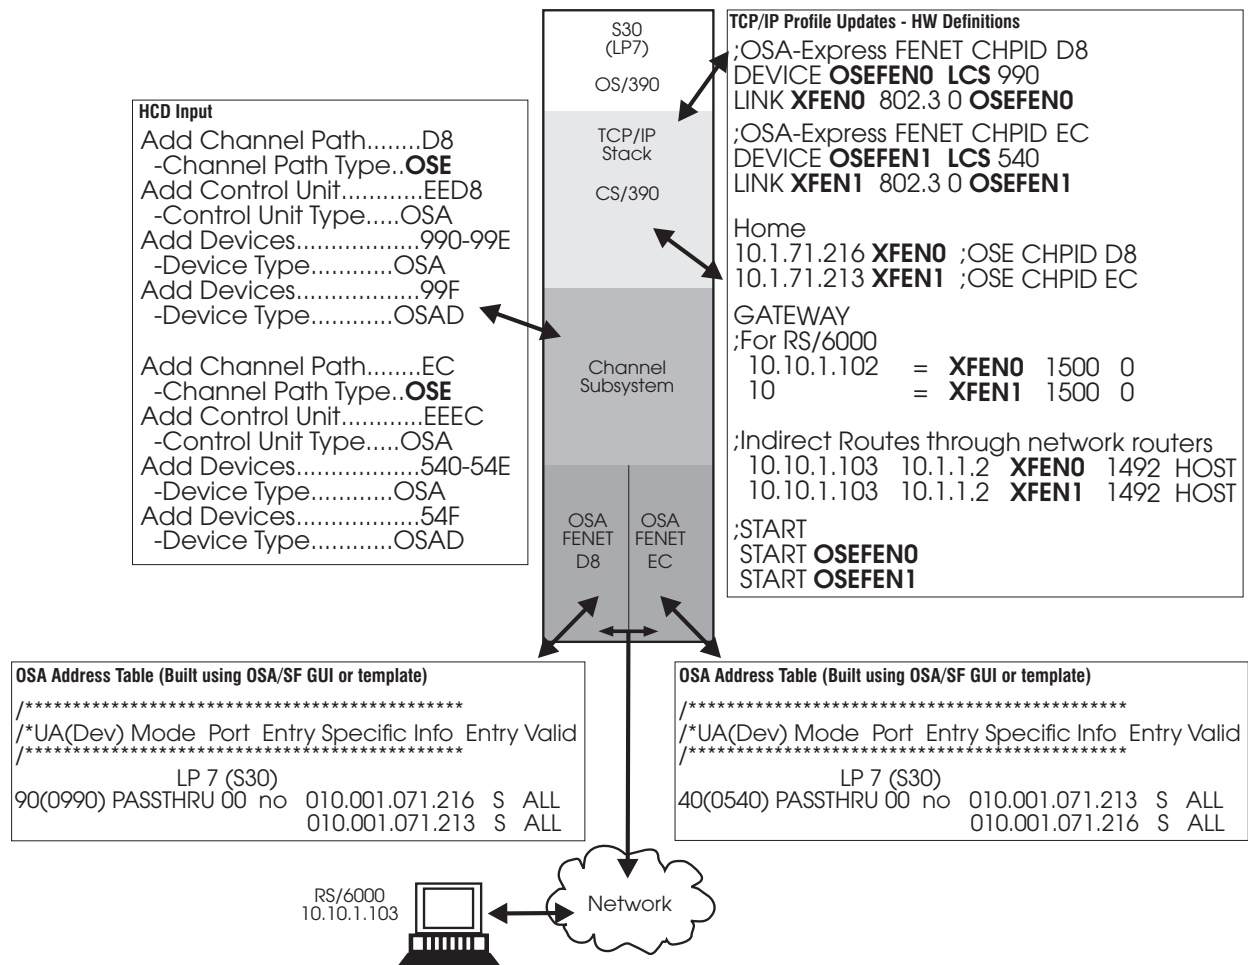

Figure 128. Multiple IP Passthru Entries
We configured the environment as shown in Figure 128.
1. We started TCP/IP on S30, using the profile in Figure 128 on page 379.